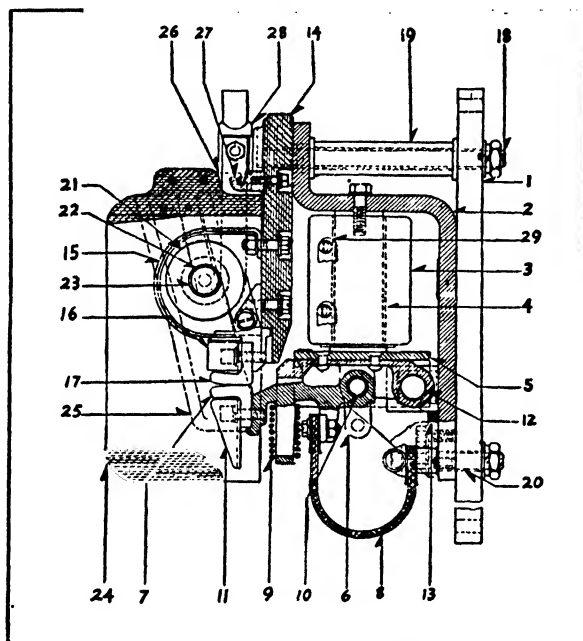

Fig. 23. Railway Contactor
*Contactors*—(where limited currents are handled, Fig. 23).